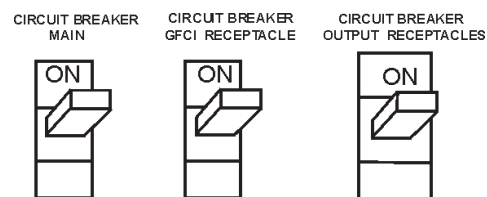

Figure 51. Main and GFCI Circuit Breakers
17. Turn the MAIN, GFCI and LOAD circuit breakers to their ON position (Figure 51).